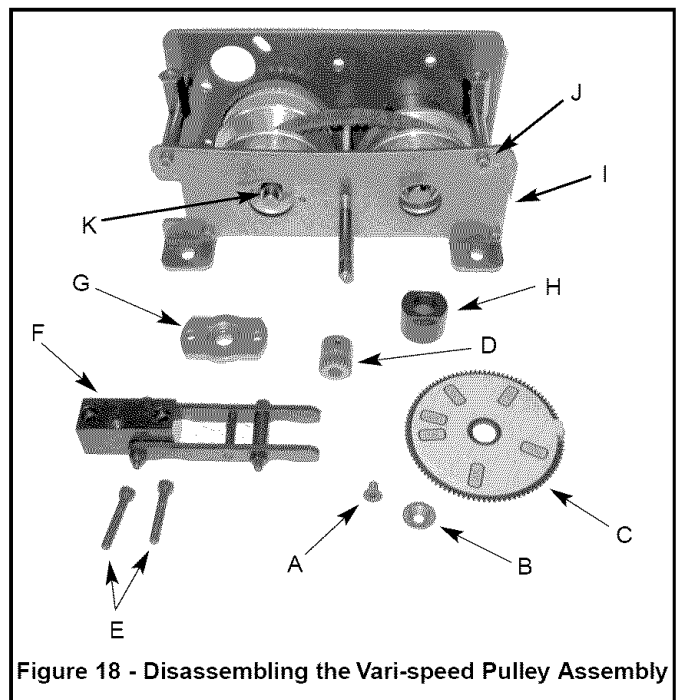

Figure 18 - Disassembling the Vari-speed Pulley Assembly
Refer to Figures 18, 19 and 20.
- Mark teeth of gears so that they may be assembled in same position as when removed (Fig. 18, Ref. C and D).
- Remove screw, spacer and gear (Fig. 18, Ref. A, B and C).
- Loosen set screw and remove gear (Fig. 18, Ref. D).
- Loosen and remove two bolts and fork assembly (Fig. 18, Ref. E and F).
- Remove bearing plate and bushing (Fig. 18, Ref. G and H).
- Loosen and remove four bolts and front plate (Fig. 18, Ref. I and J). Be careful to not change position of rod.
- Remove snap ring (Fig. 18, Ref. K) and slide pulleys from shaft.